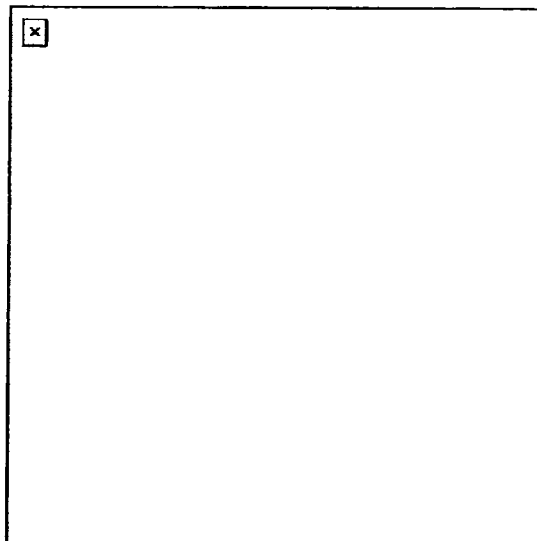

Figure 191-376-4122-6
6. Form a squad echelon-left formation (Figure 191-376-4122-6).